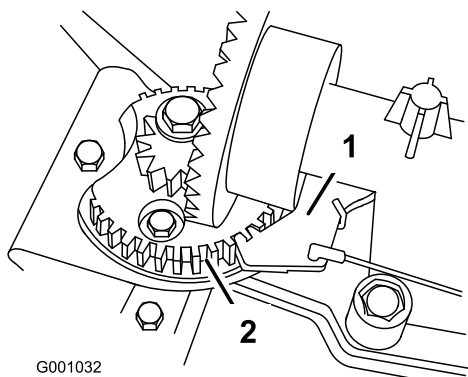

**Figure 50**
2. Loosen the bolt on the cable clamp (Figure 50).
3. Grasp the cable conduit and move it toward the front of the machine until the discharge chute latch fully engages the gear teeth (Figure 50 and Figure 51).